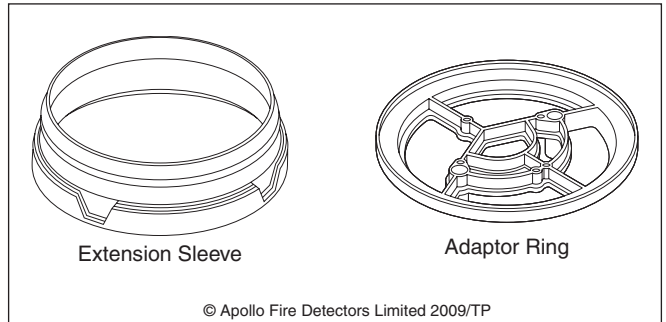

Fig 2 Accessory Kit
3. Align the holes on the ring with the mounting box, pass the wire through the adaptor ring (Fig 2) and secure ring into place.